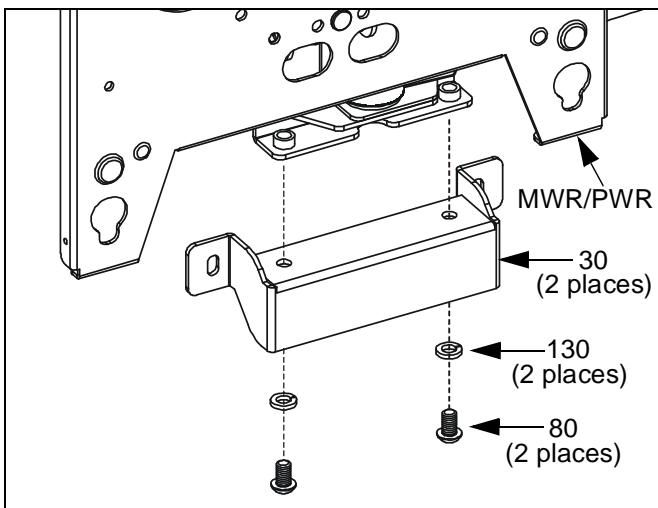

Figure 7: Attach Lower Bracket (MWR/PWR Mount)
6. Attach lower bracket (30):
- MWR/PWR mount: Using key (170), attach lower bracket (30) to mount assembly with screws (80) and washers (130) (See Figure 7). Tighten securely.